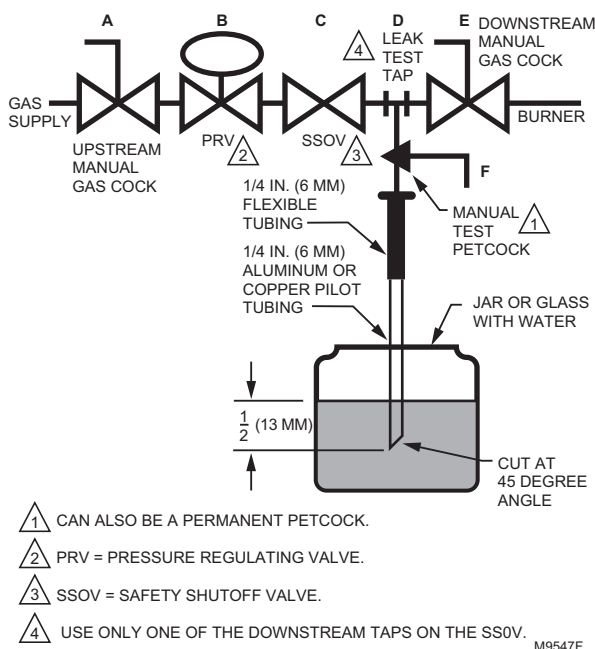

Fig. 5. Valve leak test.
Valve Leak Test (Fig. 5)
1. De-energize the control system to assure no power goes to the valve actuator (**C**, Fig. 5).